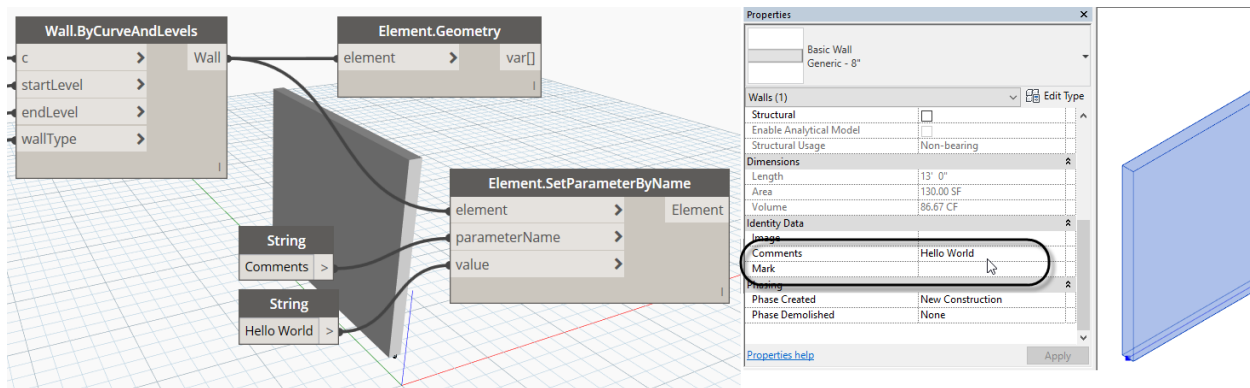

Figure 24
29. Wire the output from the **Wall.ByCurveAndLevels** node to the **element** input on the **SetParameterByName** node (see Figure 24).